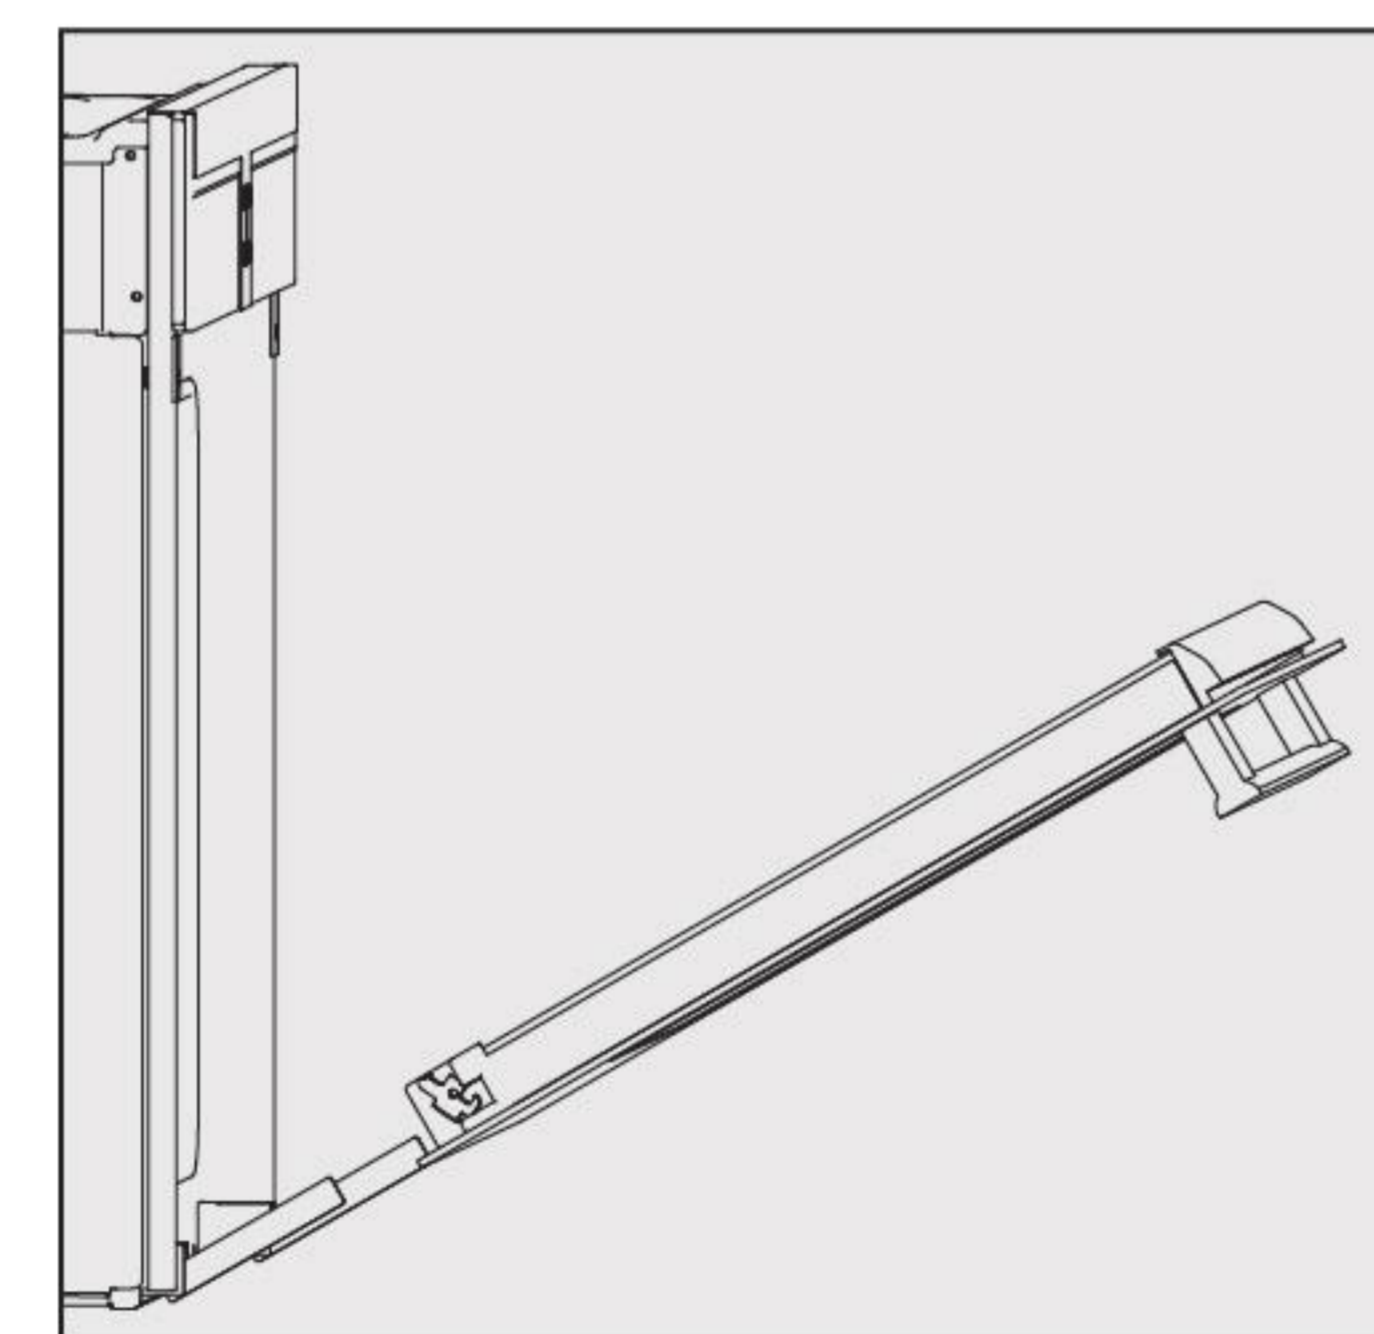

fig.4
- Hold the door securely at both sides and carefully fit it back onto the hinges. Make sure that there is no space between the door and hinges. (fig. 4)